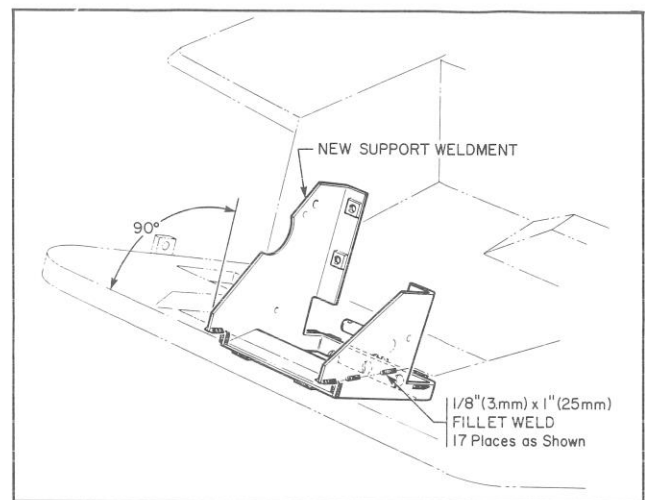

Figure 3
8. Position and tack weld new support weldment to main frame and floor plate. To ensure the steering column will be vertical when assembled, adjust the position of the support weldment to be square with the main frame. Weld the support weldment in place as shown in Fig. 3.